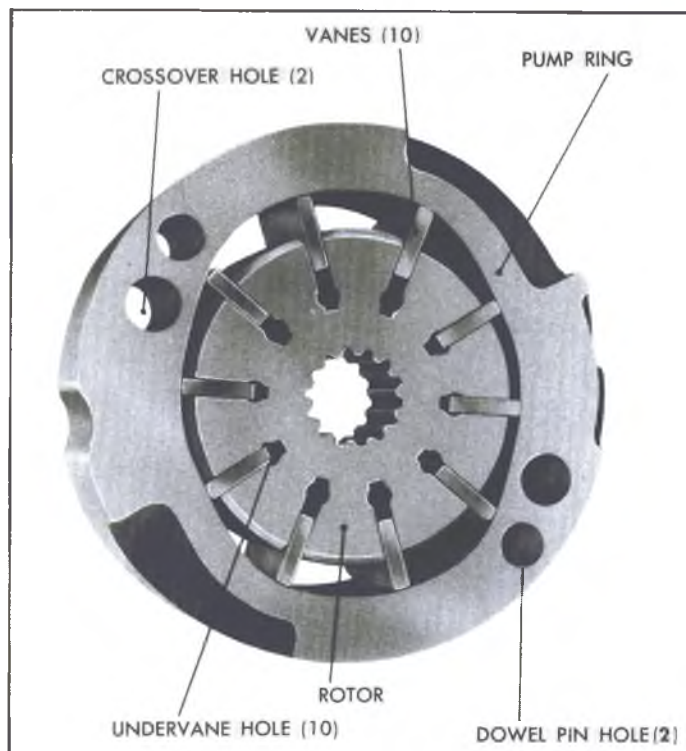

Fig. 23—Pump Components
the inner cam surface of the pump ring, moving outward and inward twice during each revolution. This results in a complete pumping cycle every 180 degrees of rotation (Fig. 23). Oil is moved in the spaces between the vanes. As the vane tips move outward, oil is sucked into the intervane spaces through four suction ports in the pressure and thrust plates. The pressure of the oil is raised, and the oil is discharged from the pump ring, as the vane tips move inward. High pressure oil discharges into cavity 1 (Figs. 25, 26 and 27), through two open ports in the pressure plate, and through two blind ports in the thrust plate, which are connected to cavity 1 by the cross-over holes in the ring. A portion of this oil is circulated through the central port system in the pressure plate, forcing the vanes to follow the cam surface of the ring. The ring-rotor leakage oil (12) is used for bushing lubrication and then bled to the reservoir.